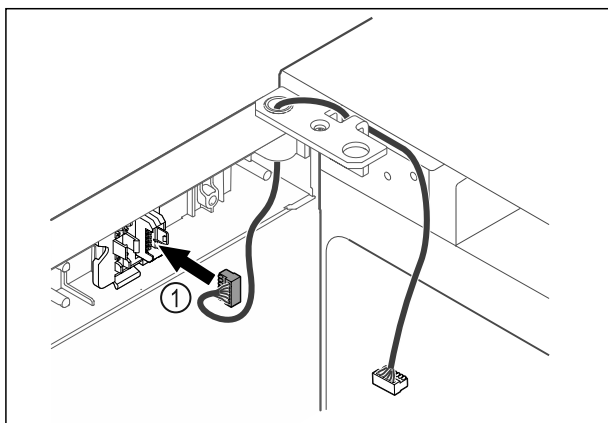

Fig. 40
- Put the plug Fig. 40 (1) in the plug holder.